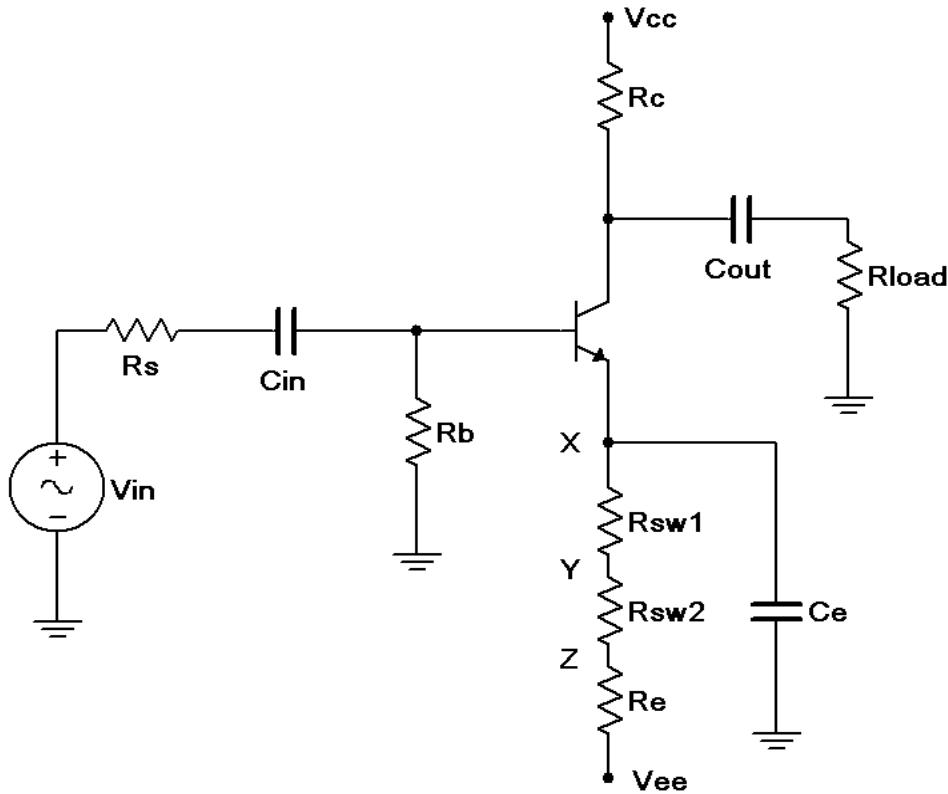

Figure 1
1. Consider the circuit of Figure 1 using $V_{cc} = 15$ volts, $V_{ee} = -12$ volts, $R_s = 10 \text{ k}\Omega$, $R_b = 33 \text{ k}\Omega$, $R_e = 22 \text{ k}\Omega$, $R_{sw1} = 220 \Omega$, $R_{sw2} = 1 \text{ k}\Omega$, $R_c = 15 \text{ k}\Omega$, $R_{load} = 20 \text{ k}\Omega$, $C_{in} = C_{out} = 10 \mu\text{F}$ and $C_e = 470 \mu\text{F}$. Using the approximation of a negligible DC base voltage, determine the DC collector current and r'_e , and record these in Table 1. Using the r'_e , calculate the expected Z_{in} , $Z_{in(base)}$, and A_v for the X, Y and Z connection points for C_e (shown at position X in the schematic). Record these in Table 2. If a transistor curve tracer or beta checker is not available to get an approximate value of beta for the transistor, estimate it at 150.
2. Build the circuit of Figure 1 using $V_{cc} = 15$ volts, $V_{ee} = -12$ volts, $R_s = 10 \text{ k}\Omega$, $R_b = 33 \text{ k}\Omega$, $R_e = 22 \text{ k}\Omega$, $R_{sw1} = 220 \Omega$, $R_{sw2} = 1 \text{ k}\Omega$, $R_c = 15 \text{ k}\Omega$, $R_{load} = 20 \text{ k}\Omega$, $C_{in} = C_{out} = 10 \mu\text{F}$ and $C_e = 470 \mu\text{F}$. Connect C_e to position X. Disconnect the signal source and check the DC transistor voltages to ensure that the circuit is biased correctly (note, the DC equivalent circuit is very similar to the ones used in the Emitter Bias Exercise and should exhibit similar DC voltage readings).